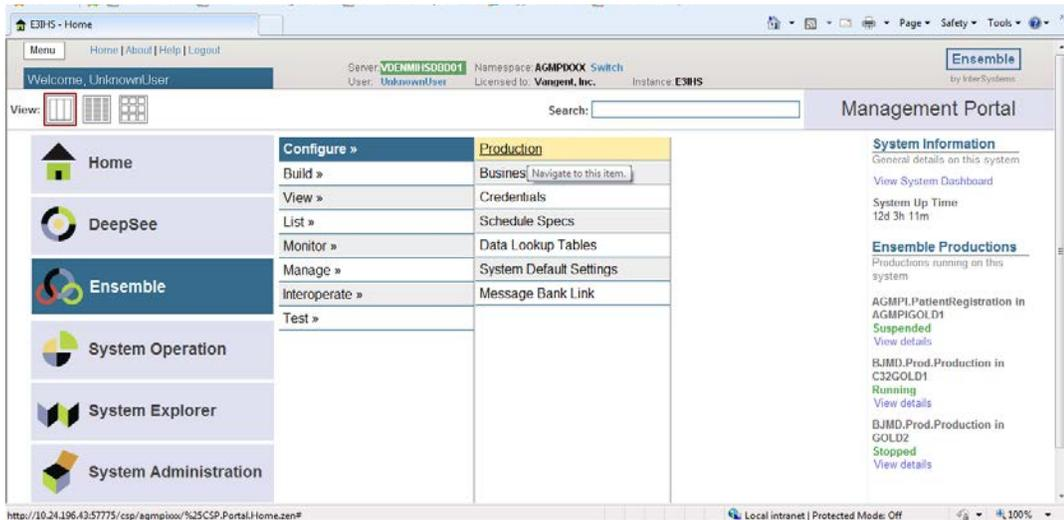

Figure 9-10: Management Portal Configure Production page
3. Click **Ensemble**, then click **Configure**, then click **Production**, as shown in Figure 9-10.